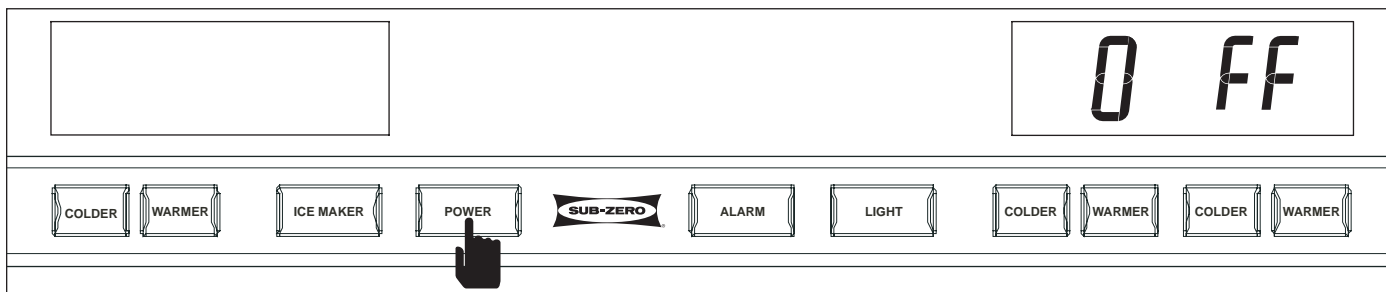
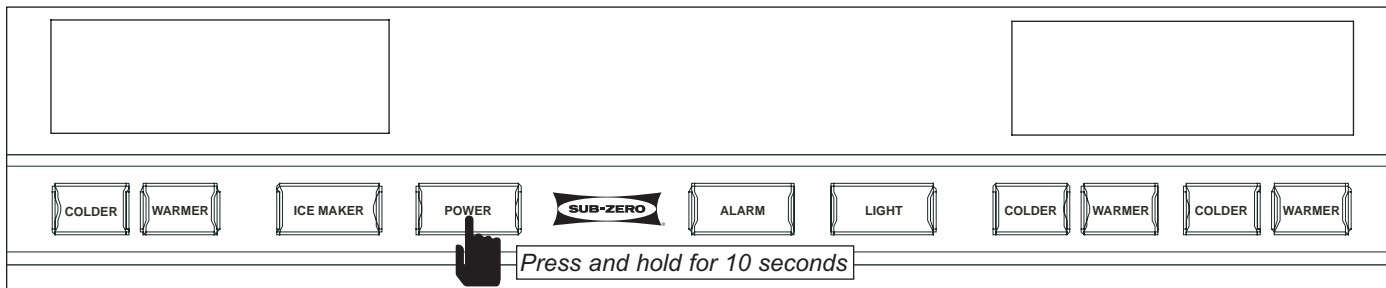

Figure 3-14. To Enter Sabbath Mode, Switch Unit OFF First
Figure 3-15. Then Press and Hold POWER Key for ten (10) seconds
To initiate Sabbath Mode, the unit must first be switched OFF using the POWER key (See Figure 3-14), then press and hold the POWER key until the User Displays and lights switch OFF, the alarm emits a quick series of beeps, and "Sabbath Mode" appears on the Technician Display (See Figure 3-15). This will take approximately ten (10) seconds. To return to normal operation, switch the unit OFF, then back ON.